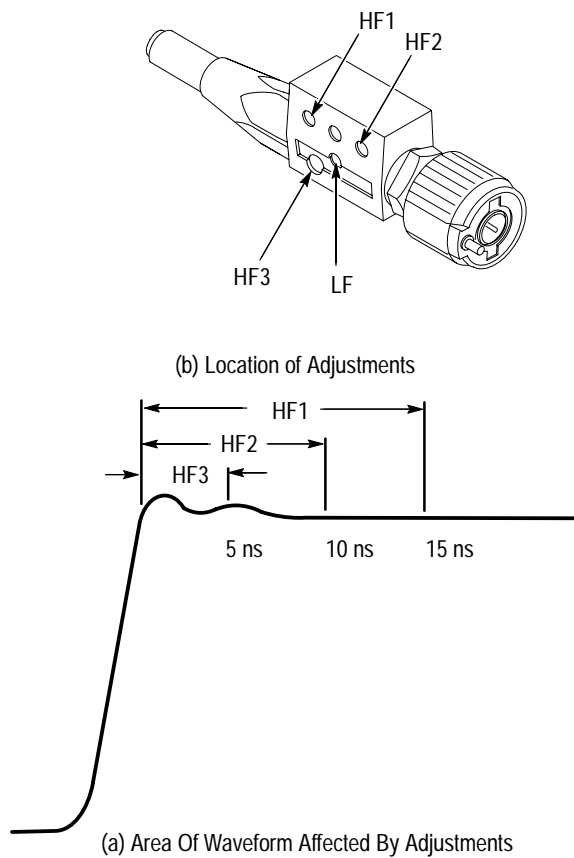

Figure 4: P6563A High-Frequency Compensation
5. Adjust the oscilloscope to view the first 20 ns of the waveform. See figure 4.